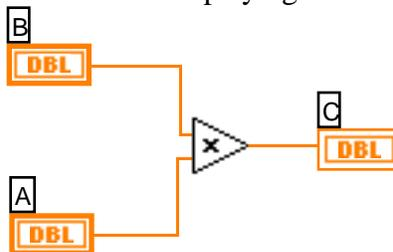
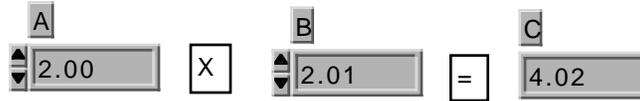

Figure 1-2. Program for Multiplying Two Numbers and Displaying the Result
Figure 1-3. Front Panel for a Two-Number Multiplication Program
LabVIEW® programming consists of drawing pictures that specify data dependencies. The LabVIEW® programming environment includes a large set of blocks to specify operations and a Wiring tool to connect them together. As an example, Figure 1-2 below shows the operation of multiplying two numbers and displaying the result.
A LabVIEW® program, called a virtual instrument (VI), is a two-window system. The code is in one window and the user interface (inputs and outputs) appear in a separate window. The program window is the diagram window, and the user inputs and outputs are in the front panel window. Figure 1-2 shows a sample program that would appear in the diagram window. The numbers are entered into the computer and displayed in the panel window shown in Figure 1-3. The two boxes on the left (labeled **A** and **B**) are controls, and the box on the right (labeled **C**) is the output or indicator. (The **X** and **=** are only displays showing the operation of the VI and not inputs or outputs.) The three boxes are associated with like labeled boxes in the diagram window shown in Figure 1-2.